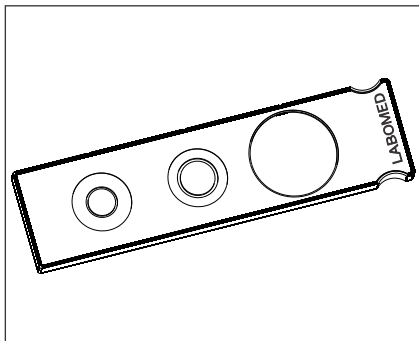

Fig. 9
1. Hold the phase slider face up (LABOMED written side facing upward) with the finger on the right and slide it in gently into the slot. As shown in Fig. 9.